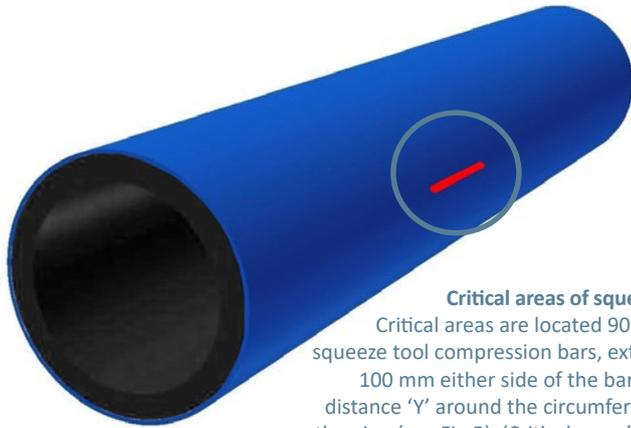
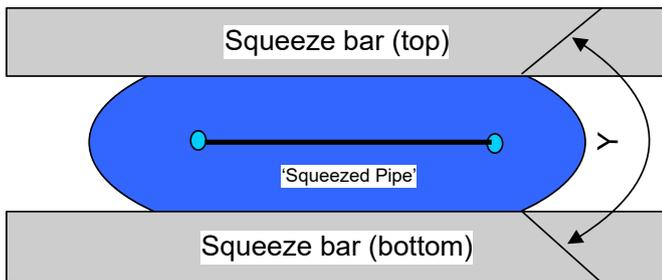

Fig 4.
Fig 5.
- 8) Before mounting the squeeze off tool, examine the pipe for signs of damage around its full circumference, 100 mm either side of the proposed squeeze off position. Particular attention must be paid to the 'critical areas' (Fig 4 and Fig 5.): these are the points of maximum tensile stress in the pipe wall. If there is evidence of pipe or pipe surface damage, the pipe should not be squeezed off at this location. An alternative location, free of damage, must be found.
Critical areas are located 90° to the squeeze tool compression bars, extending 100 mm either side of the bars and a distance 'Y' around the circumference of the pipe (see Fig.5). 'Critical areas' should be free from pipe damage or pipe surface damage.
19) Inspect the pipe, paying particular attention to the 'critical areas' ('Y' in Fig 5.). If there is any evidence of pipe splitting, treat the pipe with caution as failure may occur. Report immediately to the asset owner and treat the damage as an emergency procedure.
- 22) Inspect the pipe for signs of damage at the critical areas (Fig 4 and 5). Where evident, replace the damaged pipe section.